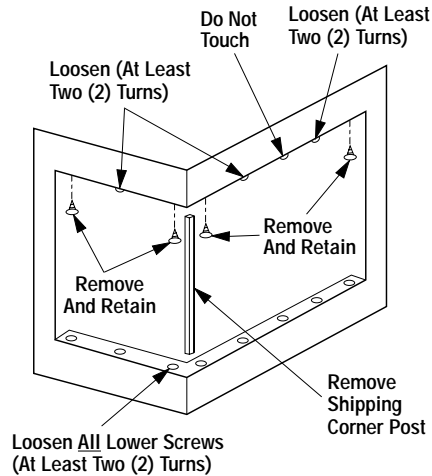

Figure 2
Step 2. Refer to Figure 2 and remove the top two outer screws and loosen the bottom screws at least two (2) turns. Remove corner shipping post, if installed.
Step 3. Refer to Figures 2 and 7 and slide the door bottom channel into position. Secure by tightening screws previously loosened through the holes provided on the top face of the channel. Install the door top channel over the middle screw and secure it in place with four screws, two screws previously removed and two screws previously loosened.